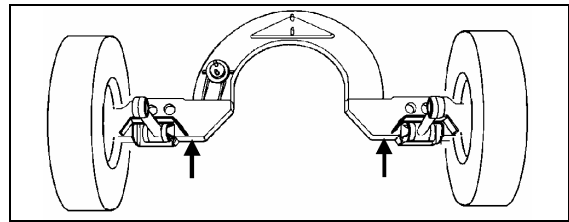

FIGURE 9: JACKING POINTS ON TAG AXLE 11023
3. Install jacks under tag axle jacking points to support the axle weight (refer to figure 9).